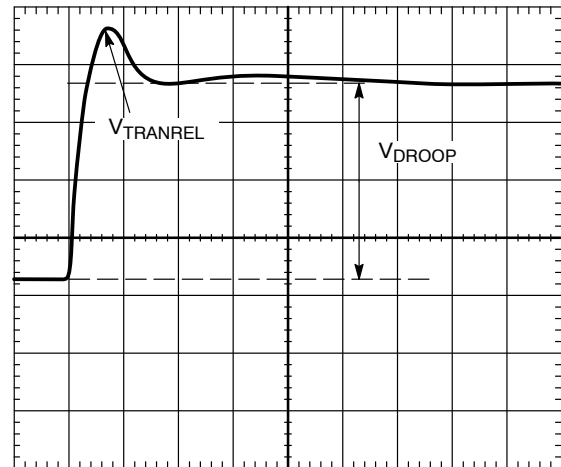

Figure 16. Transient Setting Waveform
- For load release (see Figure 16), if  $V_{TRANREL}$  is larger than the allowed overshoot, there is not enough output capacitance. Either more capacitance is needed, or the inductor values need to be made smaller. When changing inductors, start the design again using a spreadsheet and this tuning procedure.